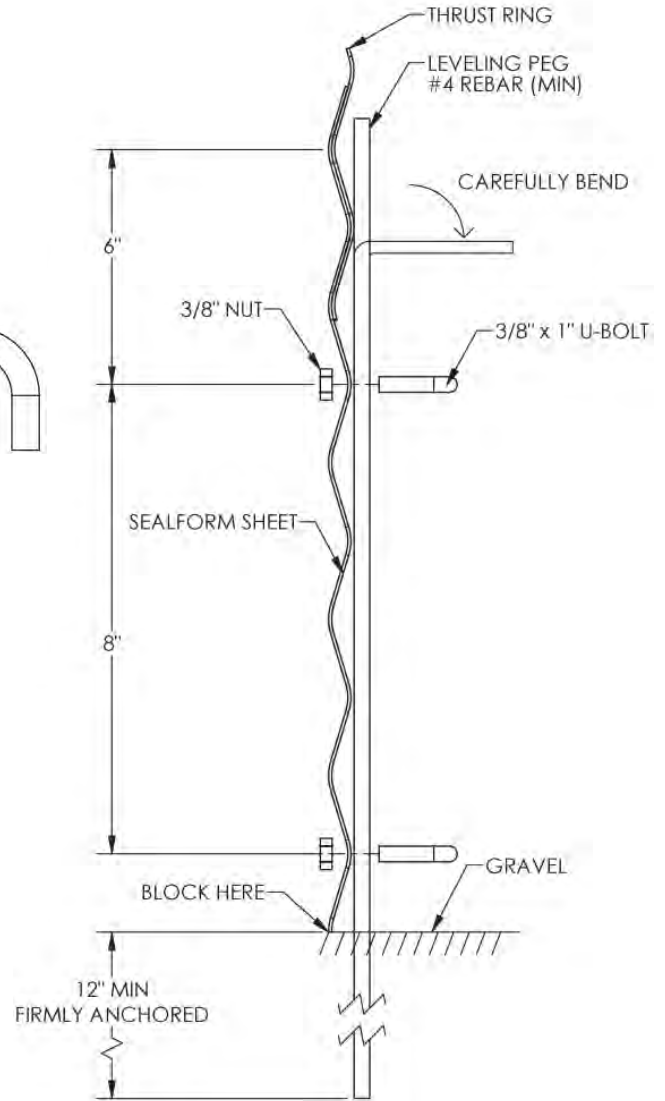

Fig. 10 – Leveling peg installation
9. Position sealform ring so leveling arm will rotate freely around entire radius. Install leveling pegs inside of wall sheets using U-bolts as shown in Fig. 10. Drive 44" piece of rebar through U-bolts as shown in Fig. 10. Make sure that rebar can slide freely.
13. Once form is level, block up form sheets to prevent any shifting while pouring concrete. See Fig. 10.